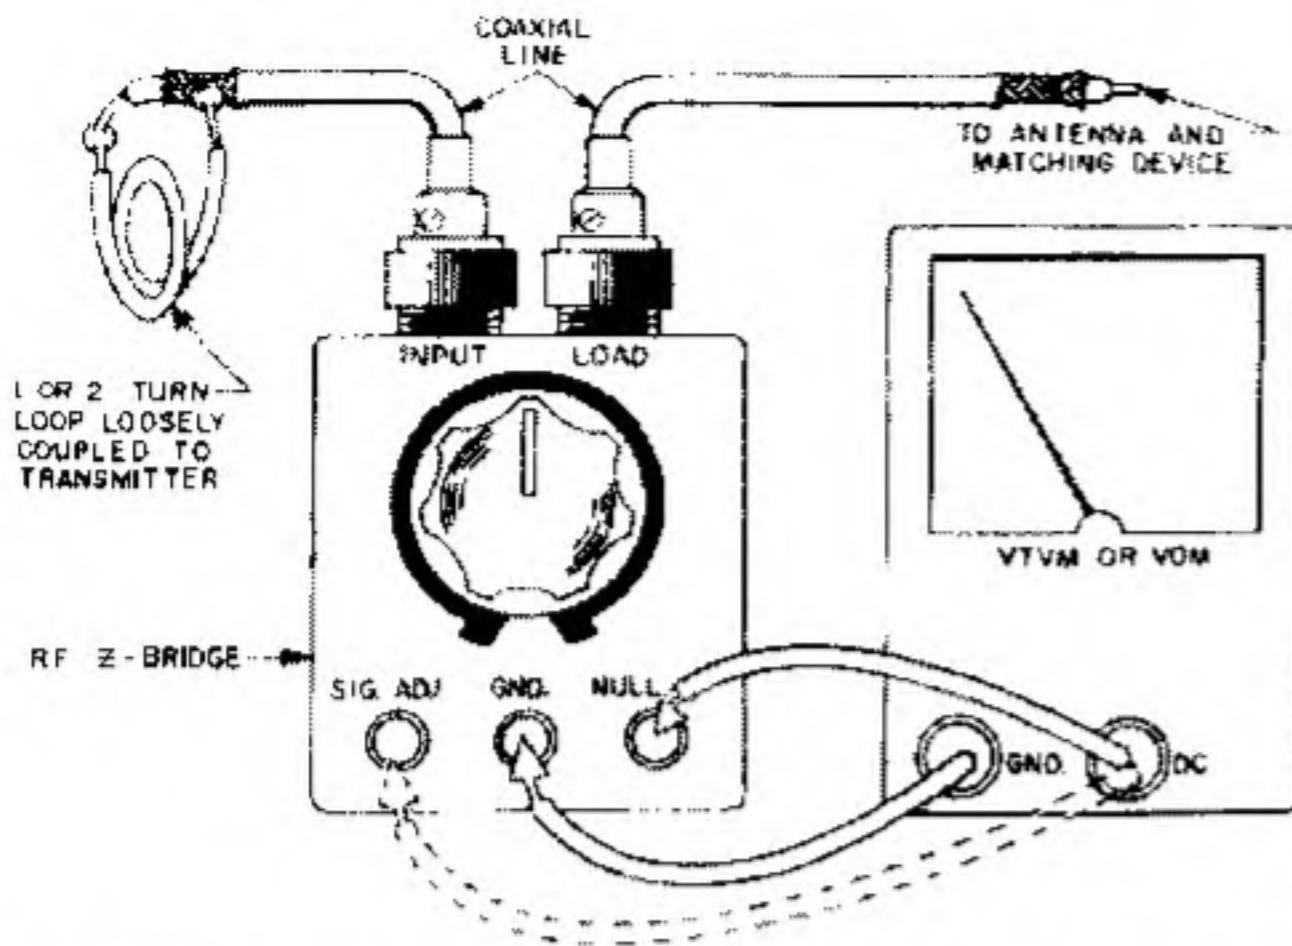

FIGURE 7. TYPICAL SET-UP USING COAXIAL CABLE
5. Loosely couple the INPUT of the Z-Bridge to the transmitter. Only a very low power level is required to operate the Z-Bridge. A one or two-turn loop, on the end of a coaxial feed line placed near the transmitter's tank coil, will give sufficient pick-up to operate the Z-Bridge. See Figure 7. The feed line can be connected directly to a pi-type output circuit. Set the coupling to minimum.
#### SEE FIGURE 7.
### SEE FIGURE 7.